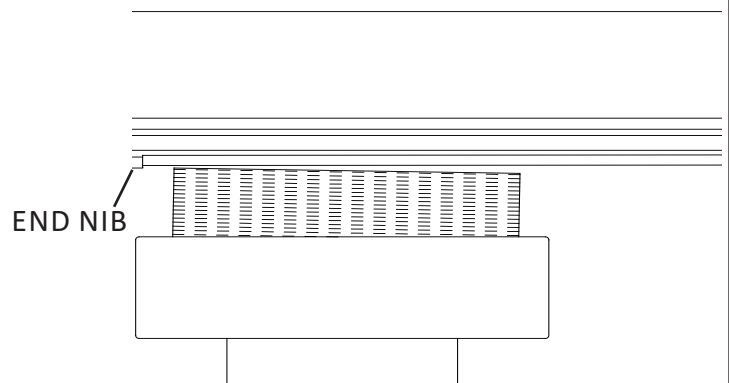

FIG. 32
3. Without moving the grinding head infeed, loosen the lock tee knob and adjust the tooling bar left side adjuster until the grinding wheel *barely* touches the bedknife at the unworn end nib. See FIG. 32.